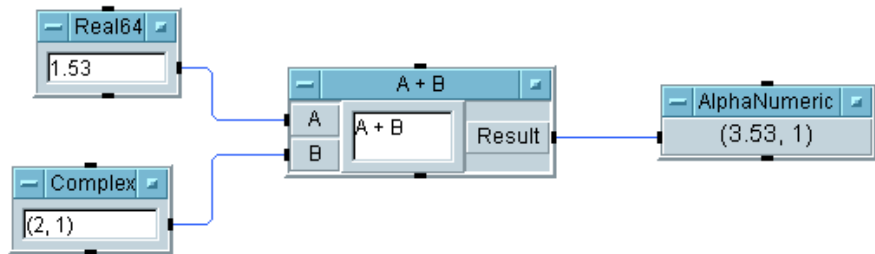

Figure 54 Using Data Types
- 5 Add an AlphaNumeric object by selecting **Display** $\Rightarrow$ **AlphaNumeric**. Connect the objects as shown in Figure 54. Type in the value 1.53 in the data entry field of the Real64 Constant object and the complex value (2,1) in the Complex object. Run the program and you should get the result shown in Figure 54.